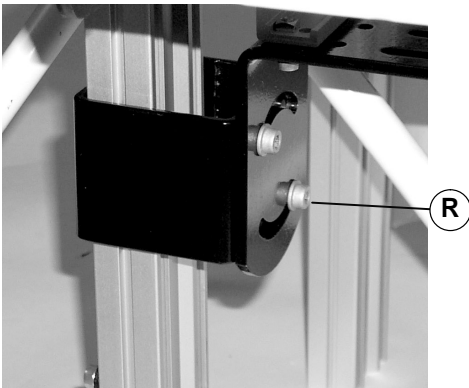
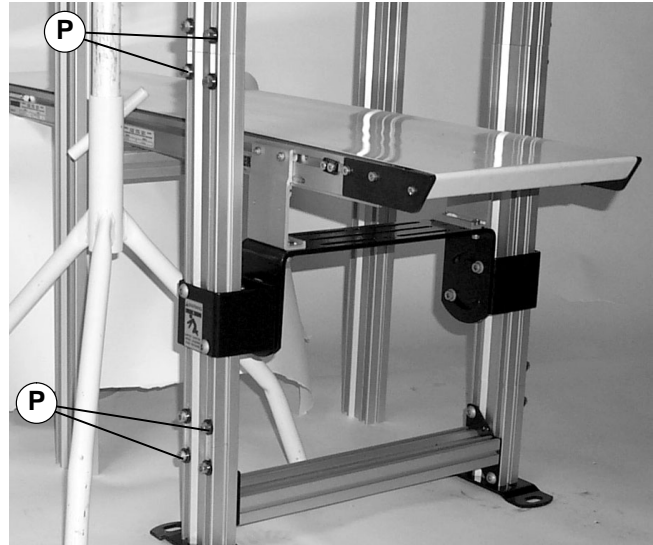

Figure 14
Figure 15
2. Remove two flange socket head screws (R of Figure 14) from the conveyor to be serviced.
3. Loosen eight screws (P of Figure 15).
6. Reverse steps to reinstall stand section (Y) and leg support bracket (H) on multi tier stand when service is complete.
7. Tighten eight screws (P of Figure 15) to 130 in-lbs (15 N-m) and two flange socket head screws (R of Figure 14) to 24 ft-lb (33 N-m).